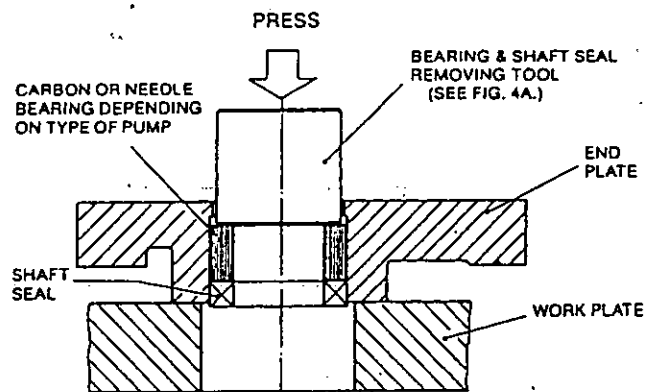

FIG. 4.
NOTE: New model pumps have a support ring (Pos 42) held by two (2) machine screws (Pos 43), holding the shaft seals in place. Before the shaft seals and bearings may be pushed out (See Figure 4 and 4A) the support ring must be removed.